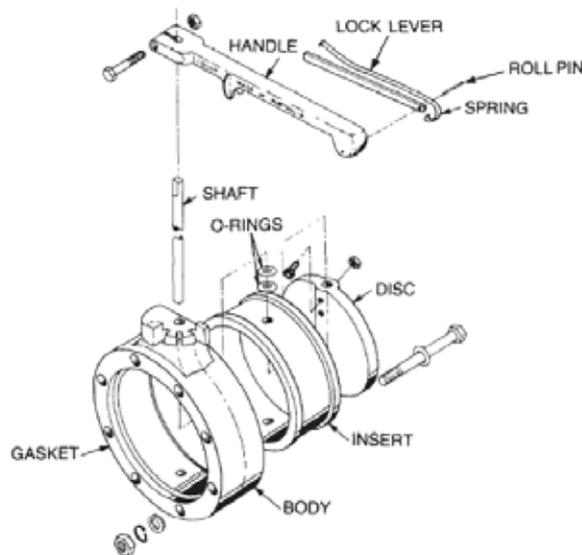

Figure 41 On/Off Road Control Valve – Exploded View
- Remove the nut and bolt securing the handle assembly to the shaft and remove the handle assembly (Figure 41).